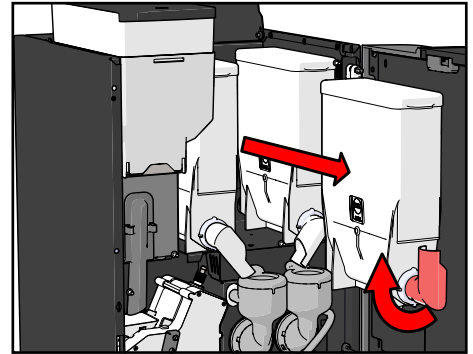

Figure 68.
3. Turn the spouts of the instant product canisters upwards and remove the product canisters from the machine (see Figure 68).